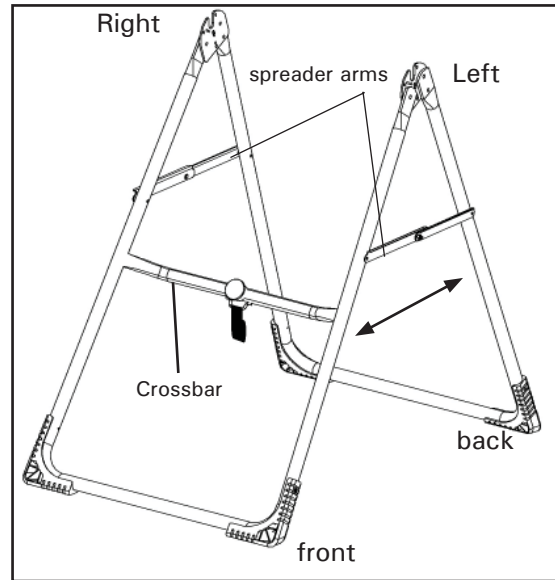

Figure 1
- Open the A-frame and make sure the spreader arms are locked, rest the A-frame on the floor (Figure 1). The Crossbar is at the front.